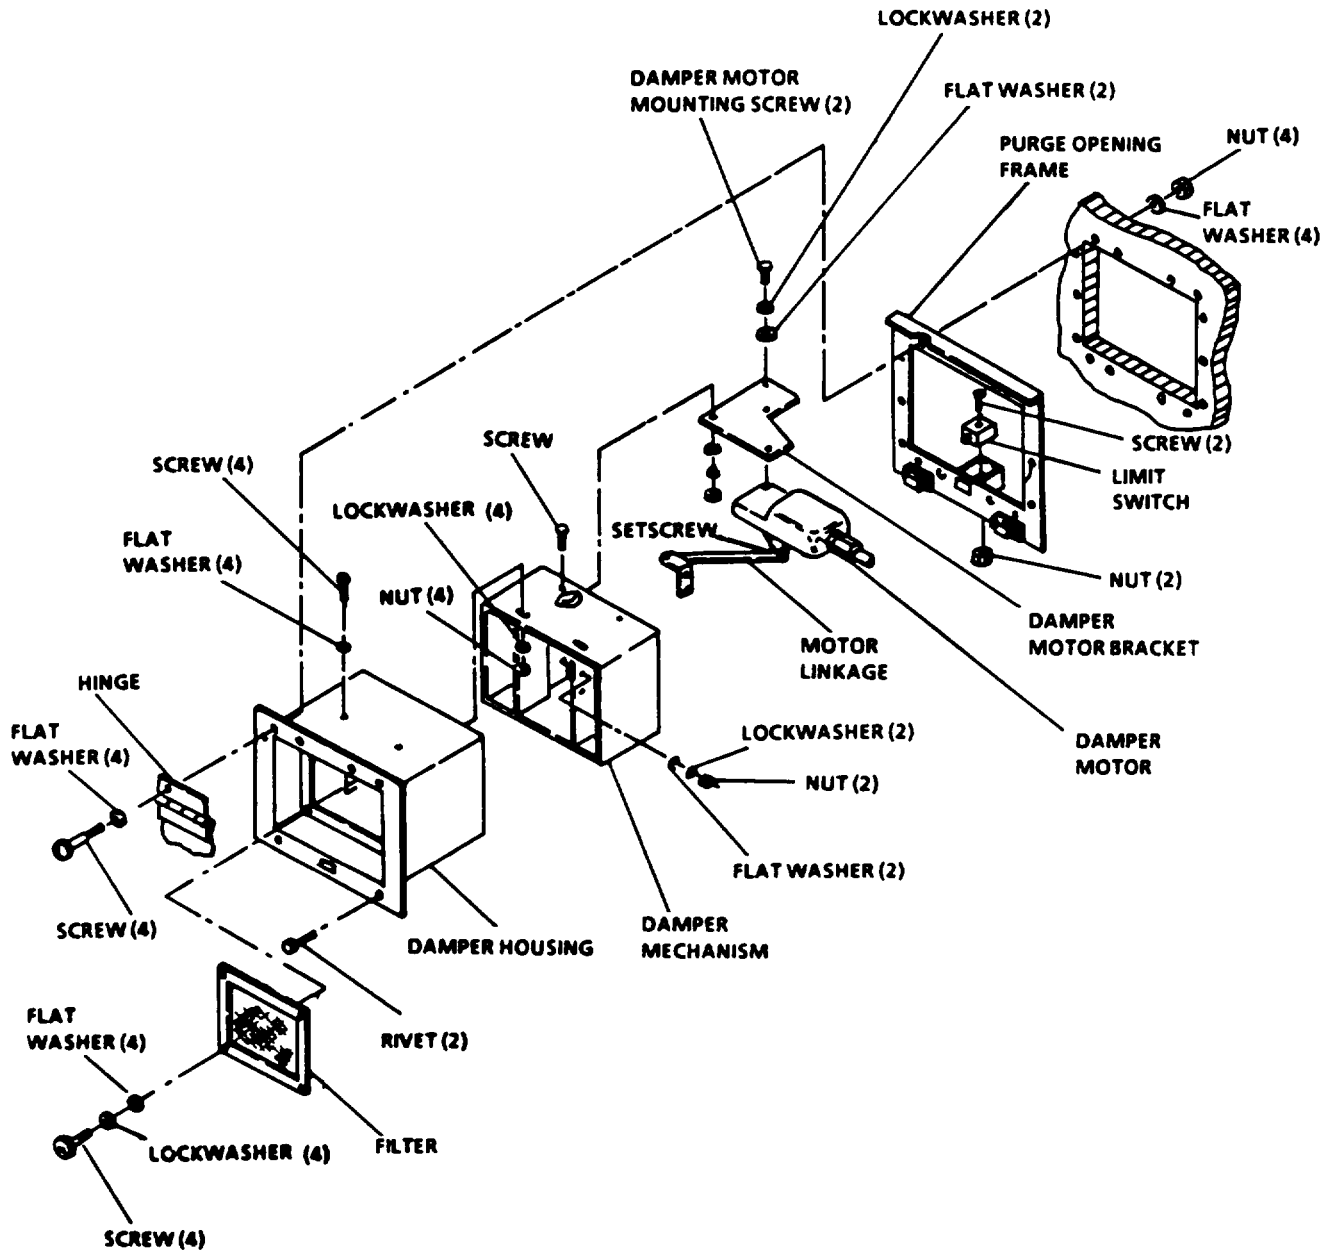

Figure 4-7. Purge Port Damper Assembly
Remove the purge port damper assembly. See figure 4-7
1. Remove purge door limit switch. See figure 4-7
2. Remove damper mechanism from damper housing. See figure 4-7.
3. Remove damper motor and motor bracket. See figure 4-7.
1. Install purge door limit switch. See figure 4-7,
2. Install motor bracket and motor in damper mechanism. See figure 4-7.
3. Install damper mechanism with motor attached in damper housing. See figure 4-7.
Install the purge port damper assembly. See figure 4-7.